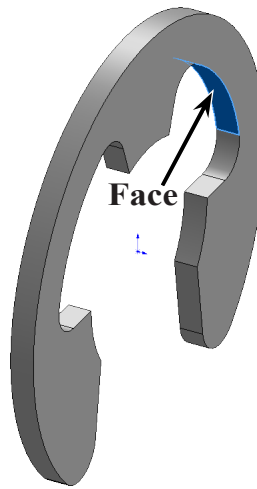

Fig. 21
Step 1. Click a cylindrical face to select it, Fig. 21.